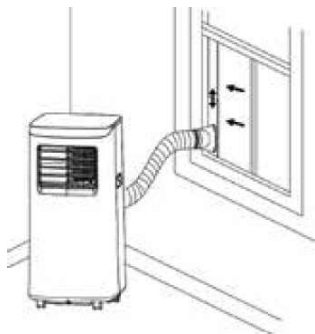
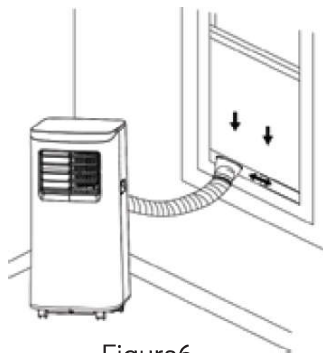

Figure5
Figure6
2) Elongate the exhaust pipe and snap the flat end of the exhaust pipe joints into the hole of the window sealing plate assembly (as shown in Fig.5 and Fig.6) .